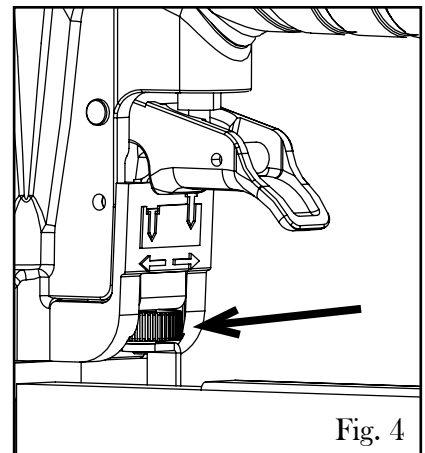

Fig. 4
Use the depth adjustment wheel (Fig. 4) found directly underneath the trigger to adjust the depth of the fired nails. Turn the wheel to the left for deeper nails, or turn to the right for shallower nails.
2. Turn the depth adjustment wheel (Fig. 4) to set the depth of the fired nail. For flooring, it is suggested to always fire at the deepest depth.